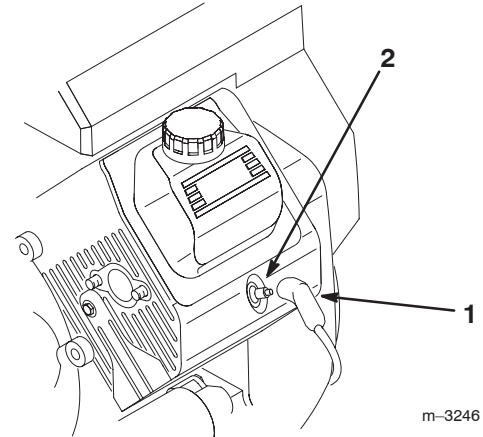

Figure 58
- Pull the wires off the spark plugs (Fig. 58).
3. Push the wires onto the spark plugs (Fig. 58).